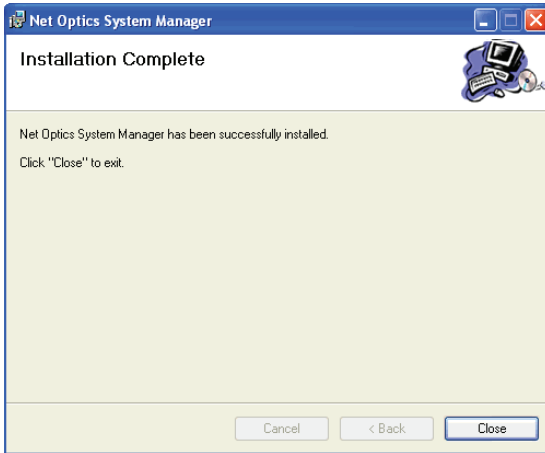

Figure 24: Installation Complete
- If you want to stop the installation, click **Cancel**. When the installation is complete, the Installation Complete dialog box appears as shown in Figure 24.